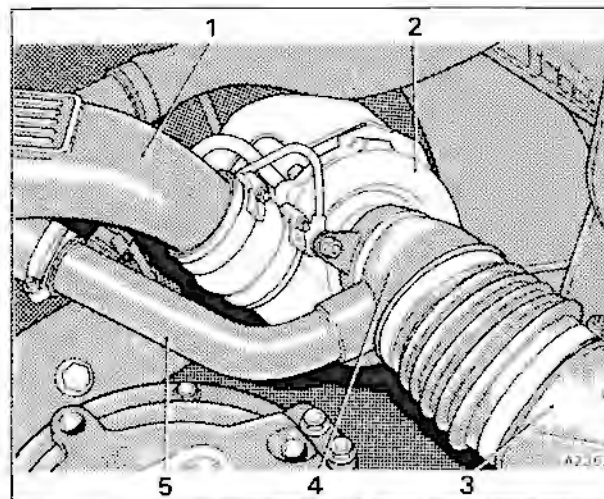

Fig. H3-3 Air intake (Bentley Turbo R prior to 1989 model year)
16. On Bentley Turbo R cars remove the air dump (recirculation) pipe and the turbocharger intake adapter (see fig. H3-3). Blank off the turbocharger to prevent the ingress of foreign matter. On 1989 model year cars also